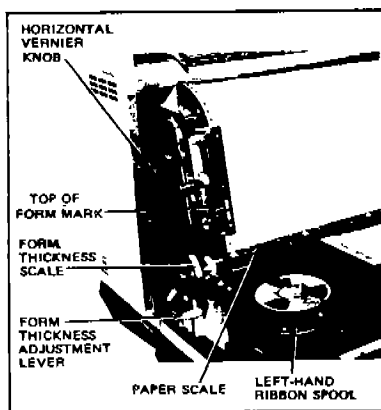
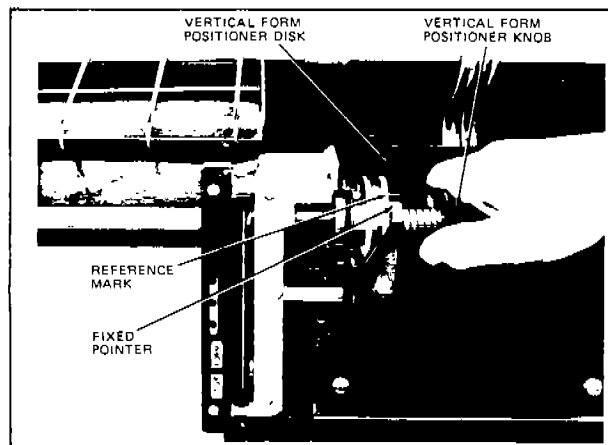

Figure 5
Figure 7
- Lift Forms Thickness Adjustment Lever (figure 5) to "Load" position (fully raised to move platen away from ribbon and hammer bank).
- Use the Vertical Forms Positioner Knob (figure 7) to set the space for the first printing line opposite the TOP OF FORM mark on the left-hand tractor (figure 5).